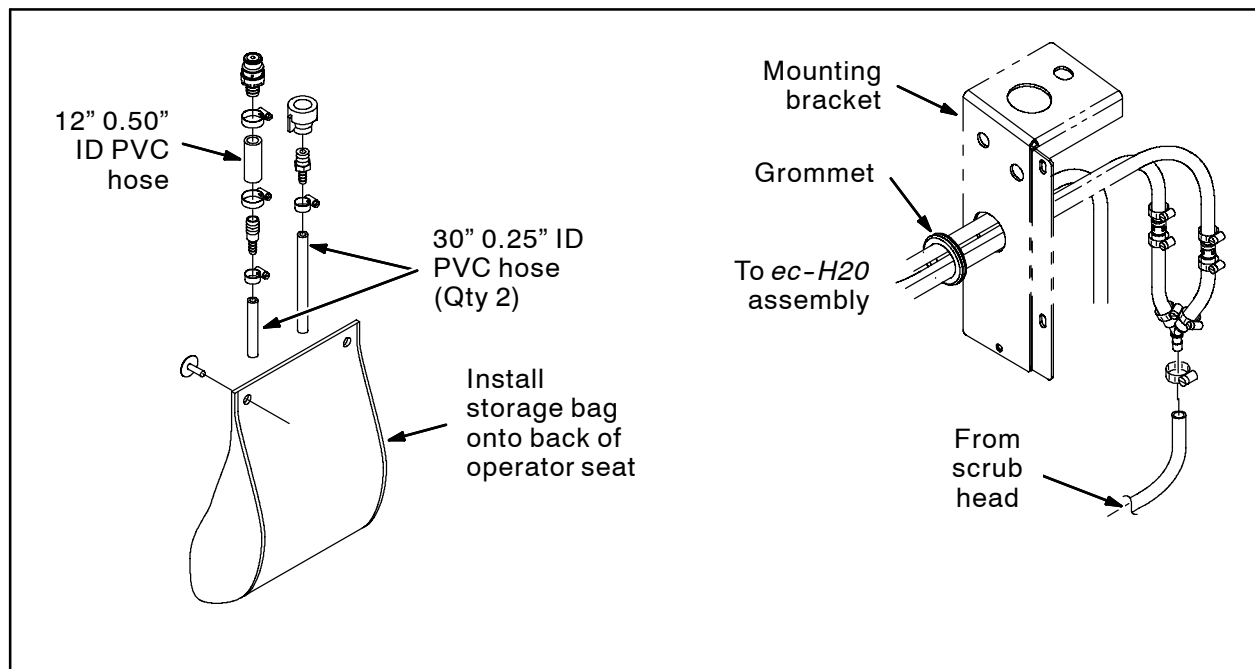

FIG. 8
33. Slide the grommet onto the hoses /cables on the *ec-H20* assembly. Refer to Fig. 8.
37. Install the grommet into the mounting bracket. Refer to Fig. 8.